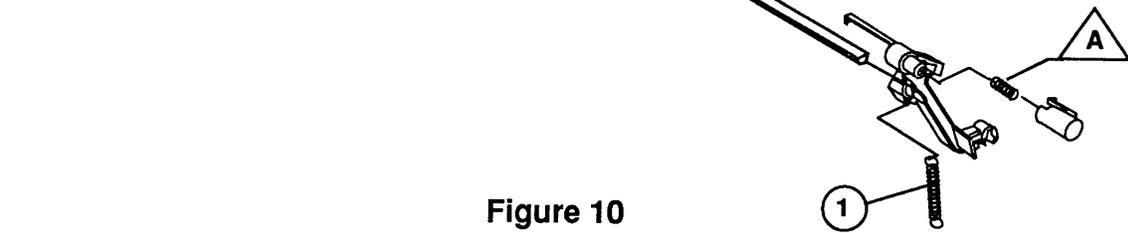

Figure 10
□ **PAPER BAIL ASSEMBLY (Figure 10)**